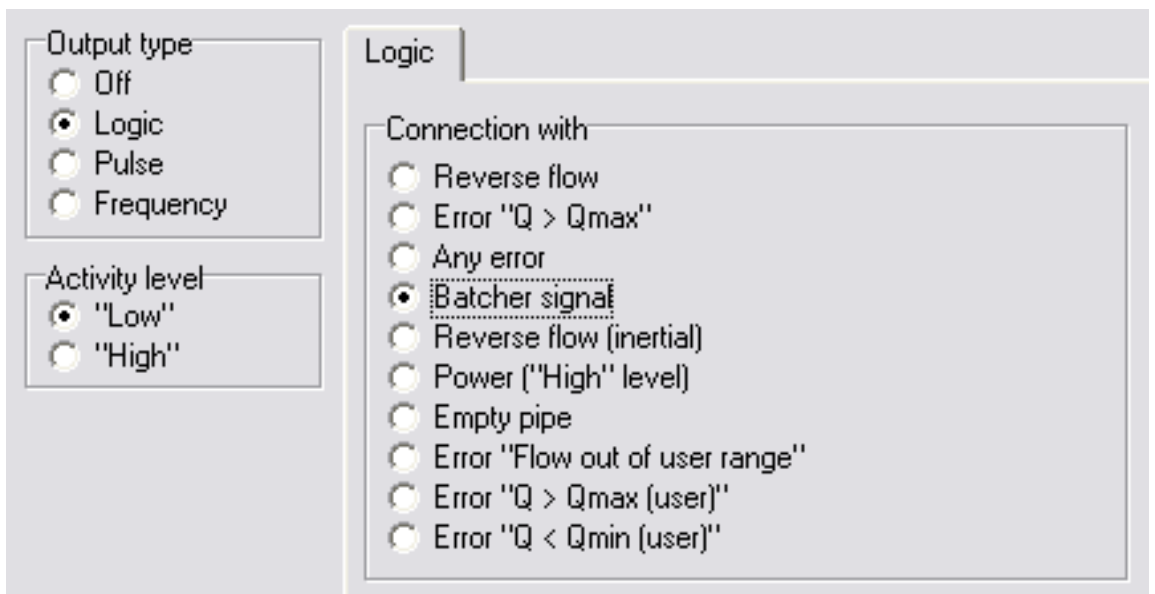

Fig.5. Connection of the logic output with the batcher operation mode.
- in the *Logic* tab select **Batcher signal** (Fig.5).